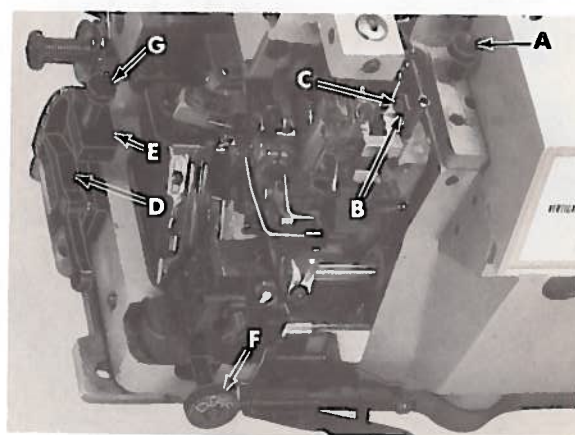

Fig. 26
To adjust stitch length, depress and hold plunger (A, Fig. 26) down, then turn handwheel in operating direction until plunger drops into notch of stitch regulator eccentric. While holding plunger down, continually forcing handwheel to turn in operating direction will increase stitch length or continually forcing handwheel to turn in the reverse direction will decrease stitch length. Numbers stamped in handwheel are for reference use only.
When differential feed indicator pointer (D, Fig. 26) is set to "0" on the graduated scale of indicator plate (E) the main and differential feeds will have the same travel. Turning thumbscrew (F) clockwise will position the pointer to the "+" portion of the scale indicating differential feed travel is greater than main feed travel. Fabric is gathered at this setting. Turning thumbscrew (F) counterclockwise will position the pointer to the "-" portion of the scale indicating differential feed travel is less than main feed travel. The fabric is stretched at this setting. Thumbscrew adjustments to the differential feed can be made while machine is in operation.